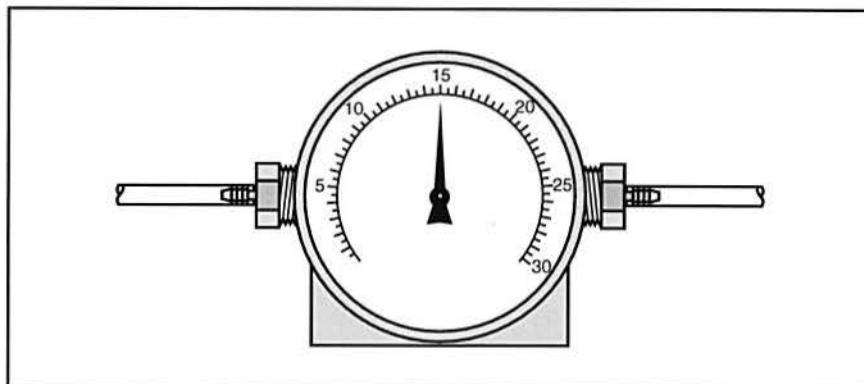

Figure 28. Adjust Span Adjustment until Gauge Indicates 15 psi
- H. Use the small slotted screwdriver to adjust the span adjustment screw until the gauge on the I/P converter indicates 15 psi, as figure 28 shows.